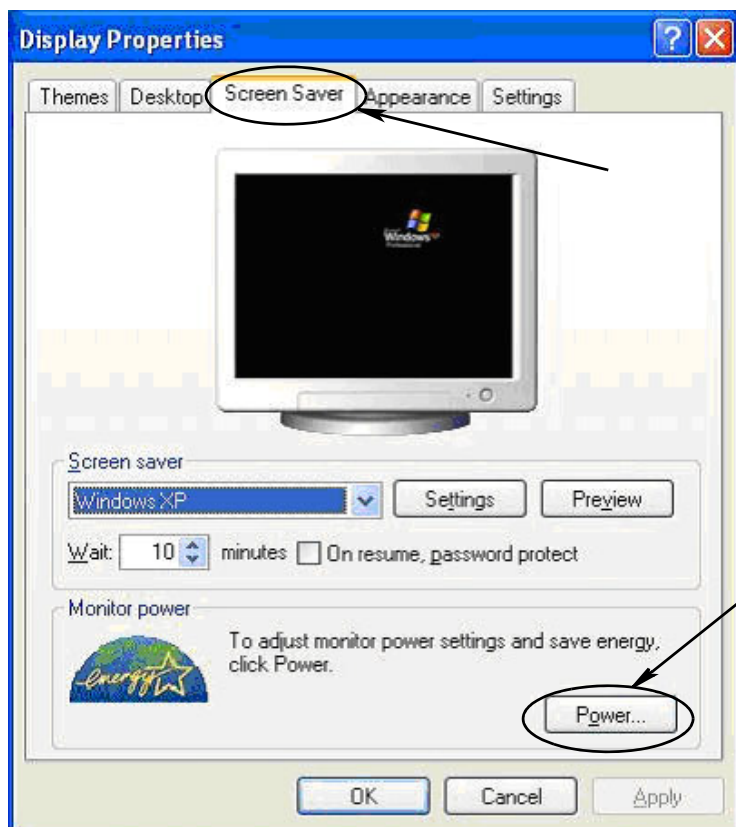

FIG. 30
2. The properties window displays. Choose the Screen Saver tab. In the Monitor Power portion of the screen, select the Power button (FIG. 30).